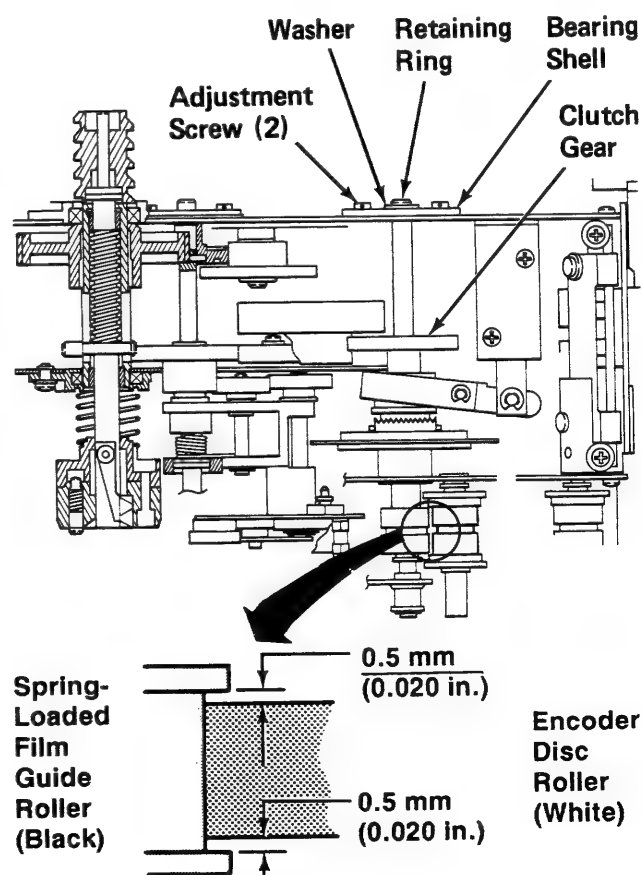

Figure 3-5A
4. Loosen the Adjustment Screws securing the Bearing Shell (Figure 3-5A).